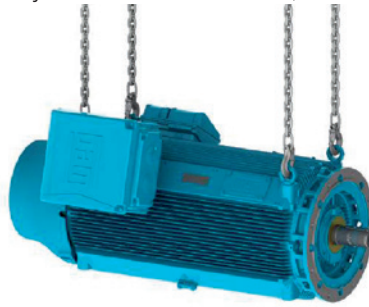

Figure 18 - Lifting of HGF, W50 and W51 HD motors with two hoists
1. Lift the motor by using the four lateral eyebolts and two hoists, see Figure 18;